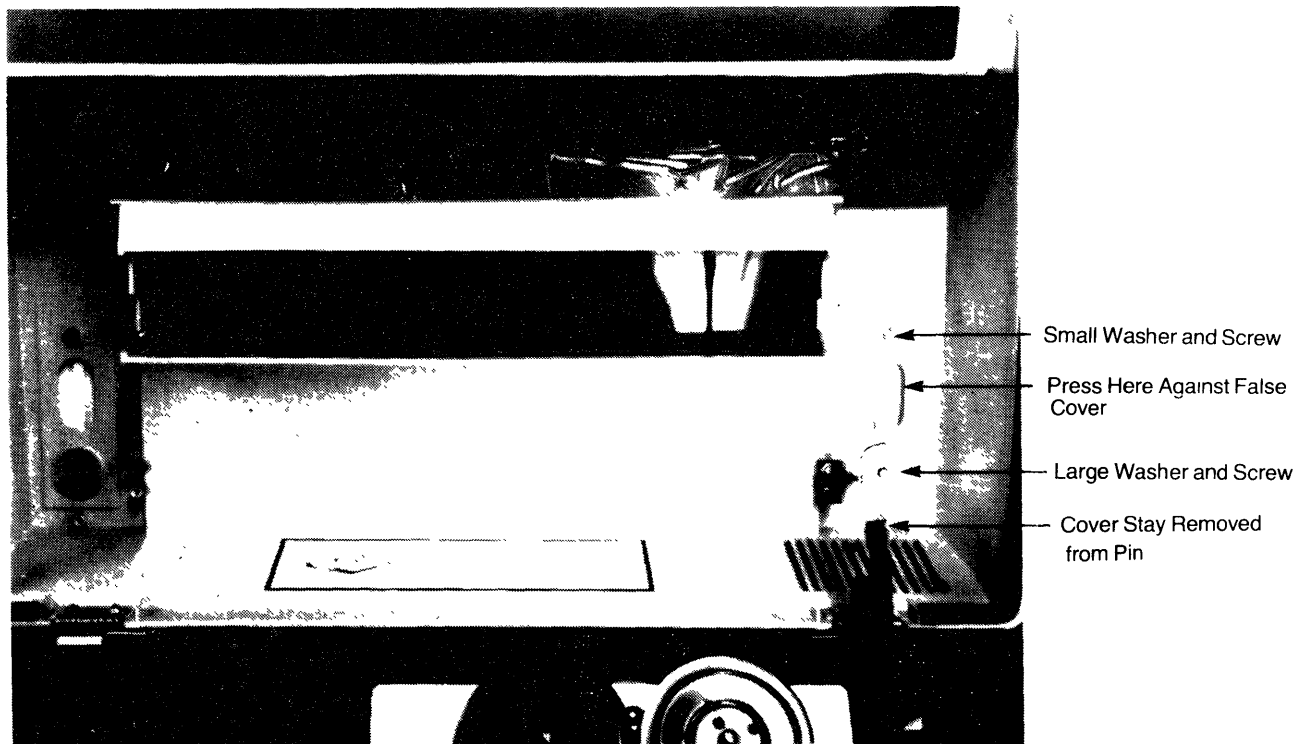

Figure 2. View Inside Terminal Cover
- (1) Lift up the terminal cover until the plastic stay at the inside right rear locks, holding the cover about 45 degrees from horizontal.
- (2) Holding the terminal cover in one hand, grasp the top of the plastic cover stay (see Figure 2) with the other hand and move the stay to the right until it clears the mounting pin.
- (3) The terminal cover now can be swung back on its hinges to rest, upside down, on a table top or other surface.
- (4) Lift the terminal cover so that it is approximately perpendicular to the table. Ask someone to hold the terminal cover in this position, or prop it with several books, blocks, etc.
- (5) Place the air exhaust cover over the outside of the 12 air vents in the right rear corner of the terminal cover. Hold in place with one hand while *starting* the three screws through the air vent slots into the three posts inside the air exhaust cover. *DO NOT tighten the three screws yet.*
- a. Lift the terminal cover and press against the inside of the left side "false cover" until it unsnaps. Repeat for the right side "false cover" (see Figure 2).